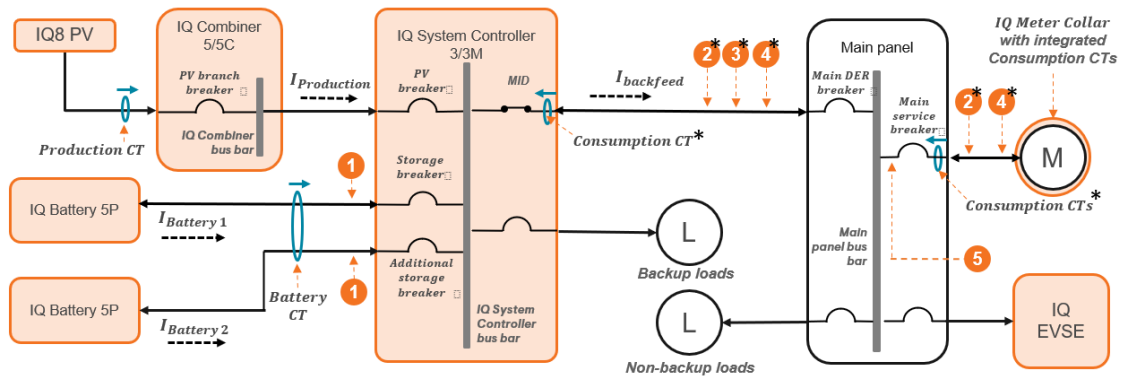

Figure 2: Example of an Enphase Energy System with IQ System Controller 3 in grid-forming configuration
- Busbar Overload Control (3a in Figure 2: Example of an Enphase Energy System with IQ System Controller 3 in grid-forming configuration on page 7): This feature reduces the system payback period by allowing maximum renewable energy generation and helps avoid the cost of panel upgrade for a large PV and battery system.
- Feeder Control (3b in Figure 2: Example of an Enphase Energy System with IQ System Controller 3 in grid-forming configuration on page 7): This feature enables avoiding the cost of a panel upgrade for a large PV and battery system.
Figure 2: Example of an Enphase Energy System with IQ System Controller 3 in grid-forming configuration on page 7 provides a bird's-eye view of the point of current being measured/monitored and limited using Enphase Power Control for each feature.